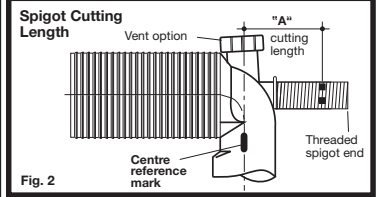

Fig. 2
- 3- Determine and mark the cutting length of the threaded spigot by measuring out the set-out dimension "A" from the centre reference mark on the connector. Cut threaded spigot to size, as detailed in Fig. 2.